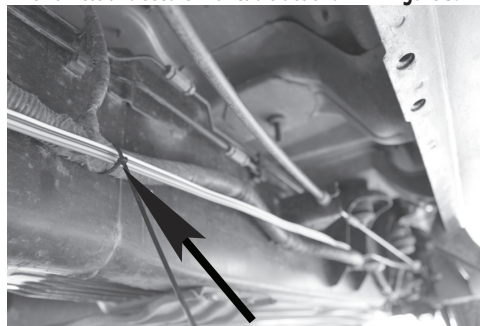

Figure 5
11. Continue routing towards front of vehicle along factory wire harness and secure with cable ties shown in **Figure 5**.